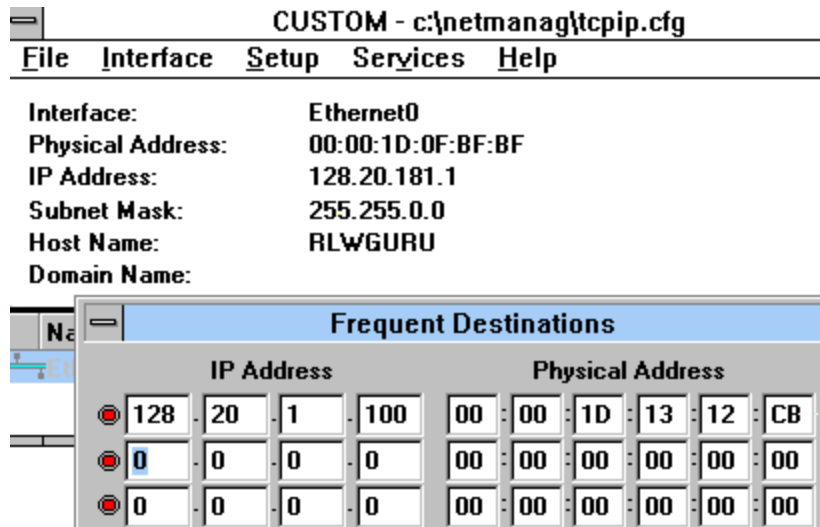

Figure 3-2. CUSTOM and Frequent Destination Screens
- a. Open up the Custom icon in the program group for Netmanage. The CUSTOM screen is displayed (**Figure 3-2**).
- c. Enter the IP address and hardware address (for example, 128.20.1.100 and 00:00:1D:13:12:CB as shown in the Frequent Destinations table in **Figure 3-2**).